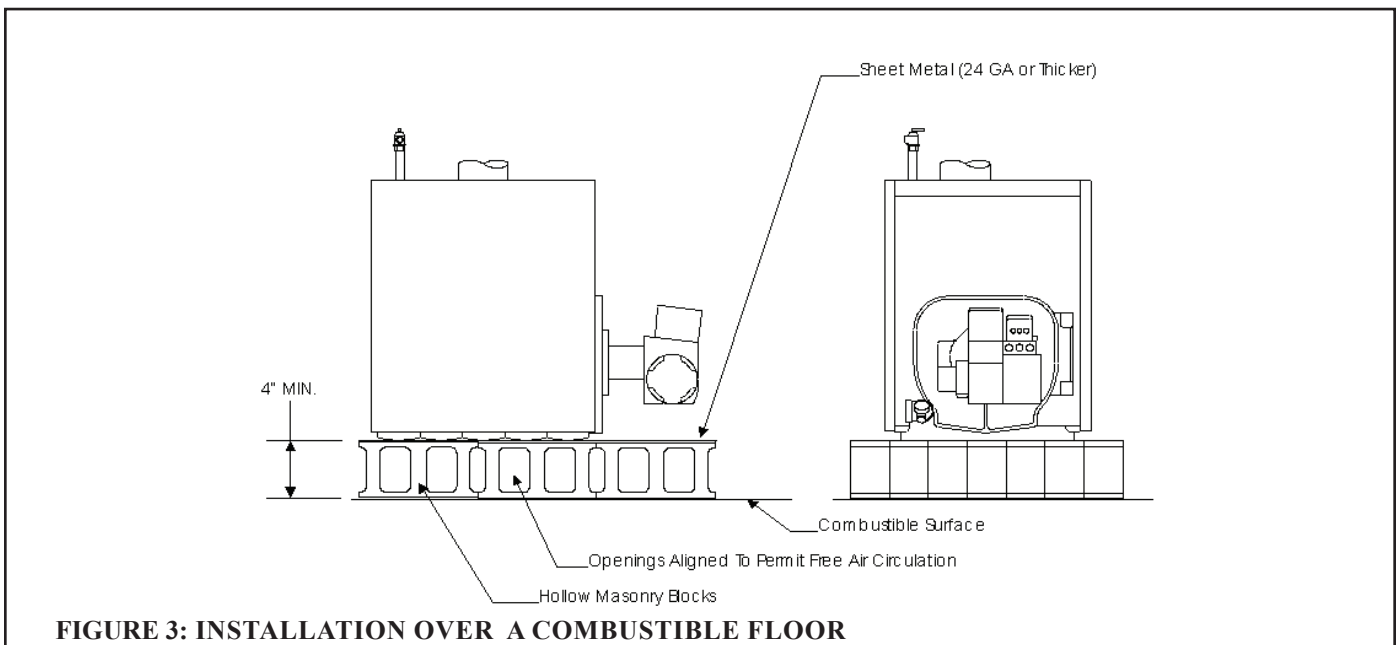

FIGURE 3: INSTALLATION OVER A COMBUSTIBLE FLOOR
3) Do not install this boiler directly on a combustible surface. Where it is desired to install the E*-OS over a non-carpeted combustible surface, install the boiler on the base shown in Figure 3.